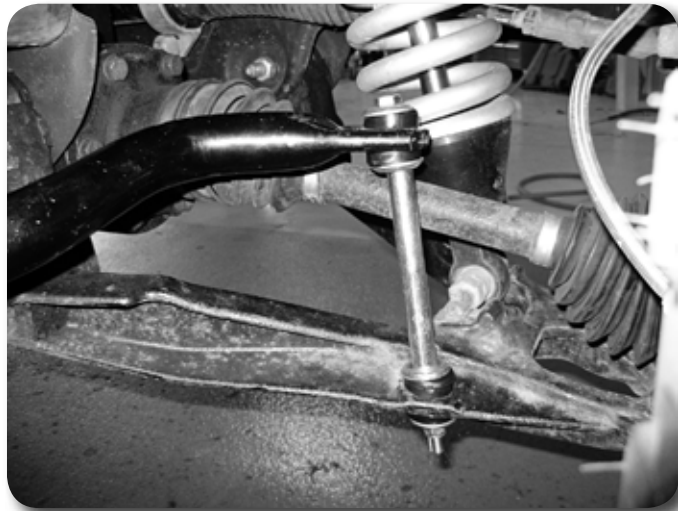

Figure 22
43. The new sway bar links will be built from a 5" sleeve, 3/8" x 9" bolt, bushings and cup washers. Attach these to the sway bar followed by the control arm with the bolt going from the top down. **Figure 22** Tighten the sway bar link until the bushings begin to form to the control arm surface.